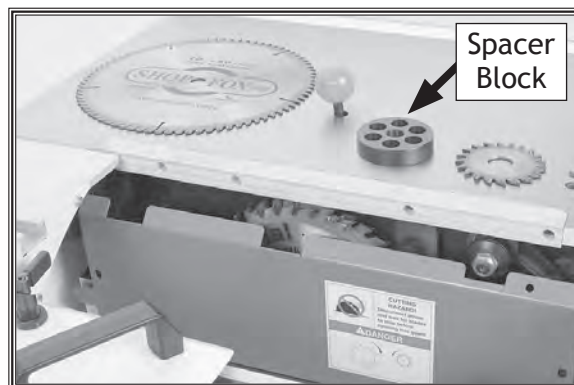

Figure 81. Dado blade installed on saw with new zero-clearance table insert.
4. Remove the spacer block installed on the arbor behind the standard blade you removed in **Step 3**. The spacer block is not used when dado blades are installed (see **Figure 81**).